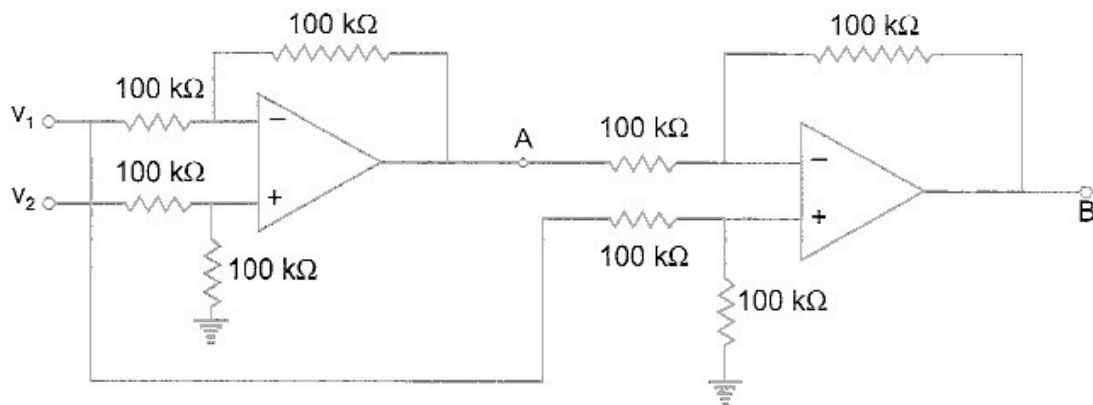

Fig. P. 2.12
2.12. What is the voltage at point A and B for the circuit shown in Fig. P. 2.12 if $v_1 = 5$ V and $v_2 = 5.1$ V?